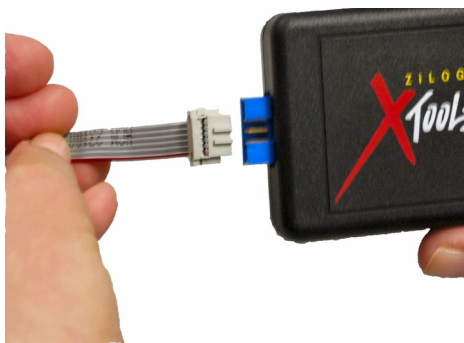

Figure 2. Connecting the Six-Conductor Ribbon Cable to the USB Smart Cable
1. Attach one end of the six-conductor ribbon cable (included) to the USB Smart Cable six-pin DBG connector. See Figure 2 on page 7.